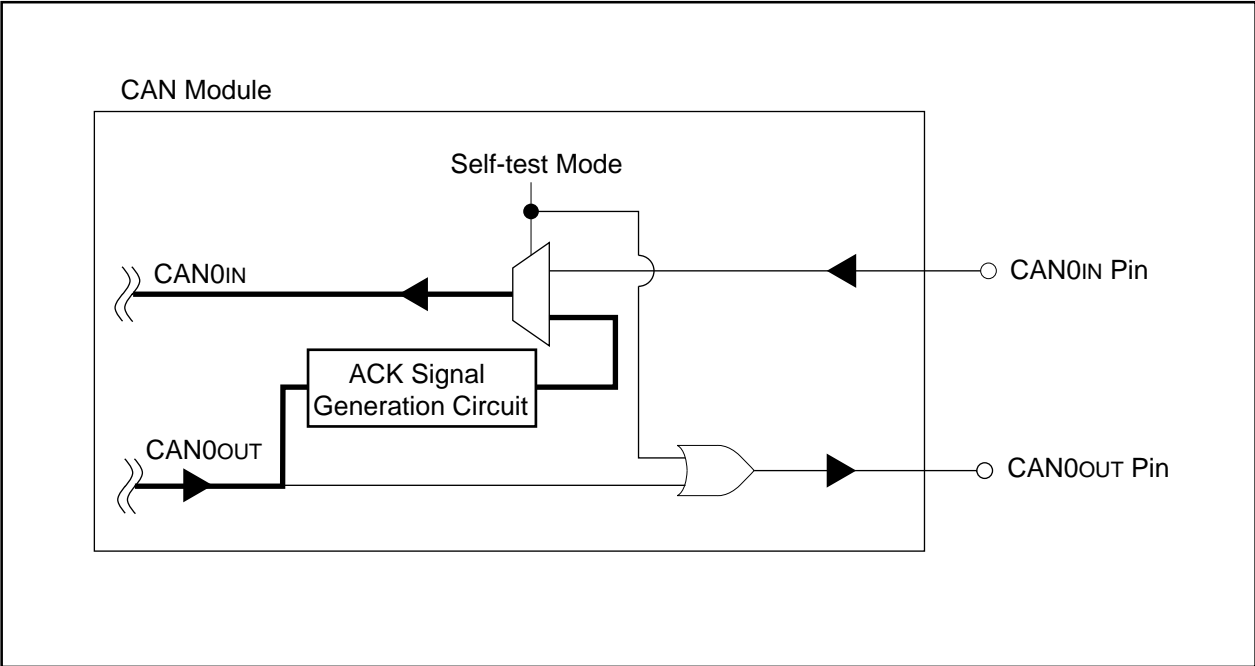

Figure 23.19 Self-Test Mode
- Self-test mode: The CAN module connects the CAN0OUT pin to the CAN0IN pin internally. The CAN module can communicate without additional device in loop back mode. Output signal from the CAN0OUT pin is fixed as an "H" signal in self-test mode while transmitting data. Figure 23.19 shows an image diagram in self-test mode.